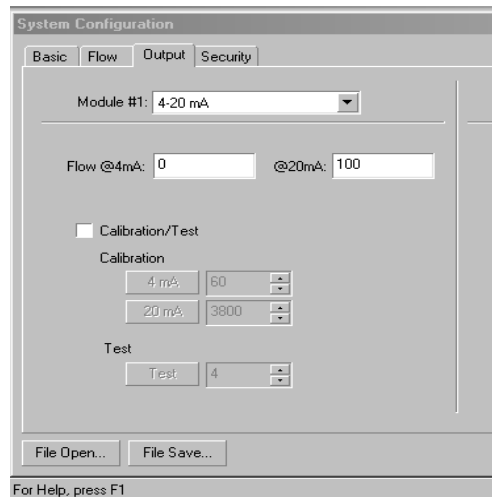

Figure 4.4
4. **OUTPUT TAB** - see **Figure 4.4**
If the 4-20 mA output has been installed, the screen shown in **Figure 4.4** will appear in *UltraLink™* at the OUTPUT tab: